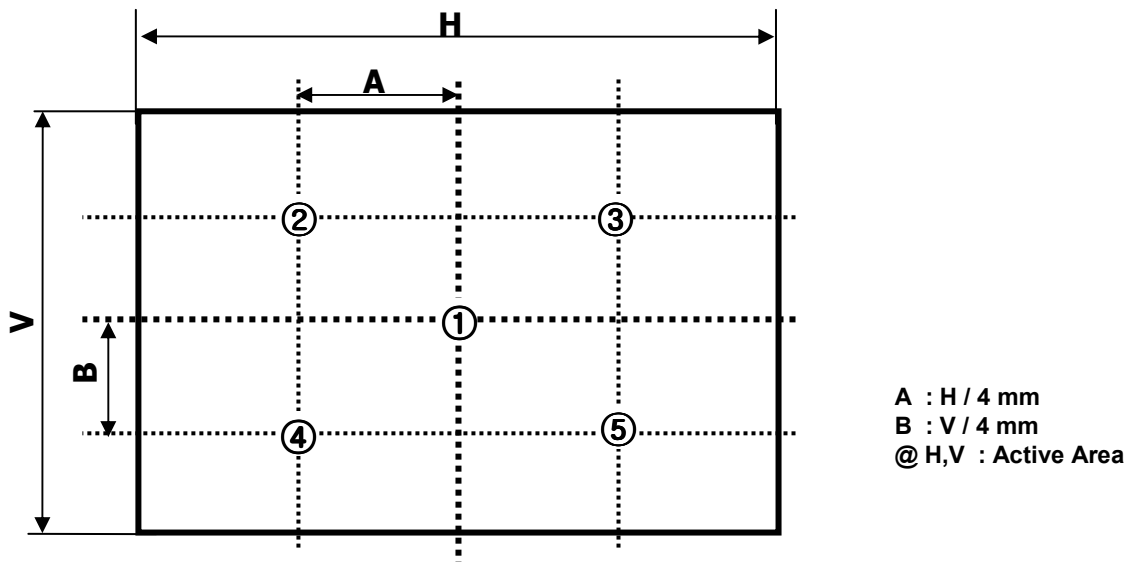

FIG. 2 5 Points for Luminance Measure
n = the Position number(1, 2, 3, 4, 5). For more information, see FIG 2.
2. Surface luminance are determined after the unit has been 'ON' and 30min after lighting the backlight in a dark environment at $25 \pm 2^\circ\text{C}$. Surface luminance is the luminance value at center 1-point across the LCD surface 50cm from the surface with all pixels displaying white. For more information see the FIG. 2.
Where L_{on1} to L_{on5} are the luminance with all pixels displaying white at 5 locations . For more information, see the FIG. 2.